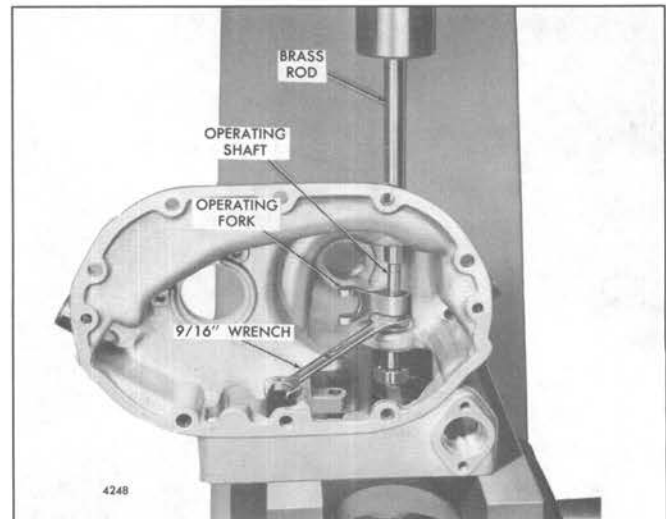

Fig. 16 - Removing Operating Fork Shaft and Lever Assembly from Governor Housing
- g. With the housing still supported on the bed of the press, place a 9/16" open end wrench under the operating fork (Fig. 16). Place a brass rod on the end of the shaft and press the fork off of the operating shaft. Remove the shaft, operating lever and bearing as an assembly from the housing.